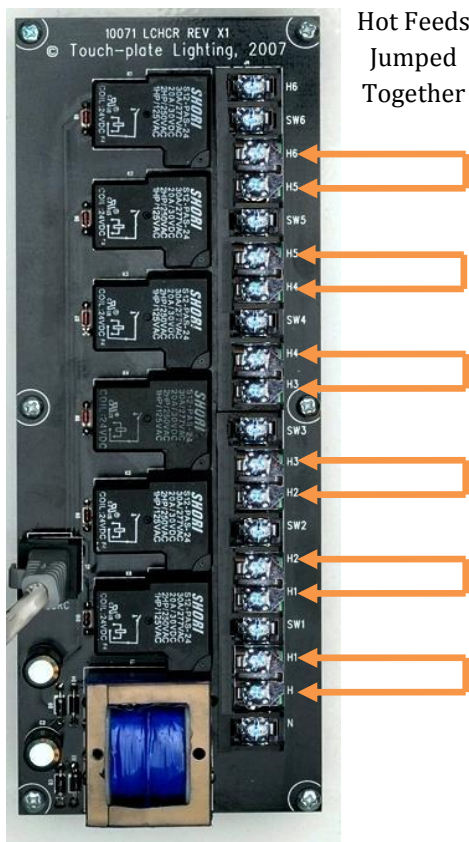

Figure 6.1
Figure 6.1 shows a 10071 Relay Board. The 10071 Relay Board has electronically held relays rated at 20AMPS. There are 6 relays and a transformer per board. The transformer performs the same functions as the TVR-1 / TPS-0120, which supplies power to the relay and the low voltage circuitry. The Relay Board will come from the factory with ‘jumpers’. ‘Jumpers’ allow all six (6) relays to share one (1) hot feed. If more than one (1) hot feed is desired or needed, the jumper(s) can be removed so the new hot feed can be wired.